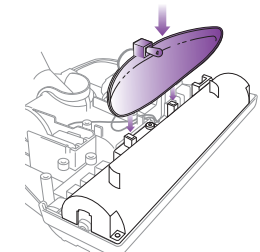

Fig. 28
- 12 Replace the headlight assembly onto the rotating brush cover making sure that the pins in the assembly fit into the slots in the cover. (Fig. 28)